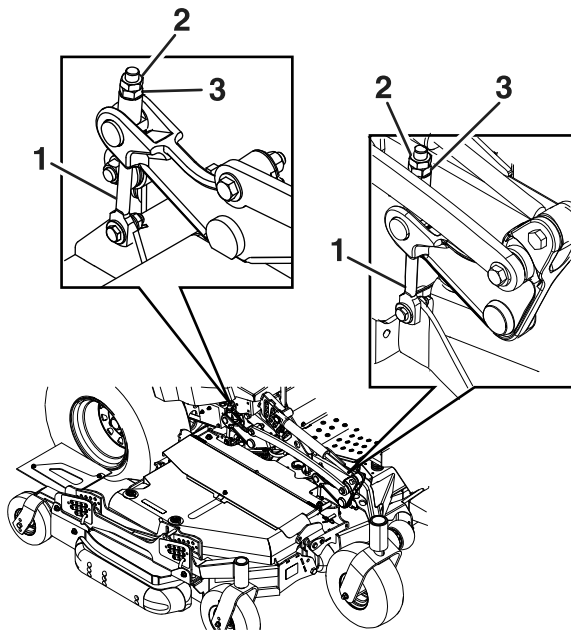

Figure 82
Loosen the jam nuts on the top of each deck adjuster. Fine-tune the adjuster on the front deck-lift assembly by turning it to get the correct height for the left and right, front blade tips on the center deck (Figure 82).
5. If the 4 deck adjusters (Figure 82) do not have enough adjustment to achieve the accurate
6. To adjust the single-point system, first loosen the front and rear height-of-cut plate mounting bolts (Figure 82)